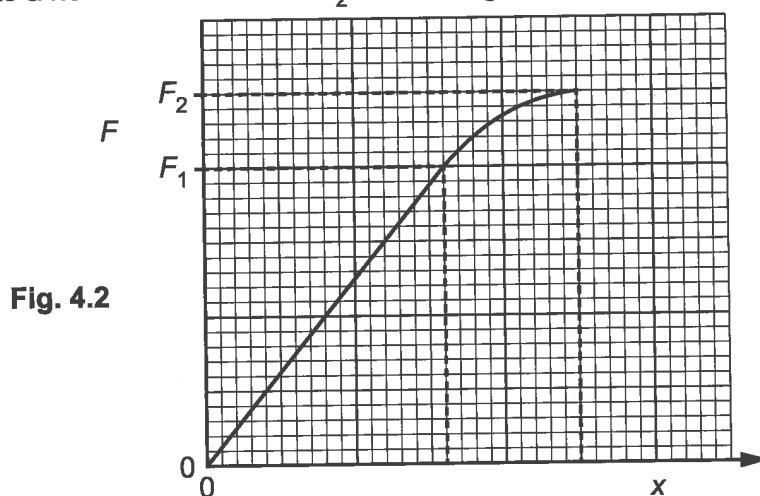

Fig. 4.2
- (iii) Another student repeats the original experiment in (b)(i), increasing the force beyond F_1 to a new maximum force F_2 . The new graph obtained is shown in Fig. 4.2.
- On Fig. 4.2, shade an area that represents the work done to extend the wire when the force is increased from F_1 to F_2 . [1]